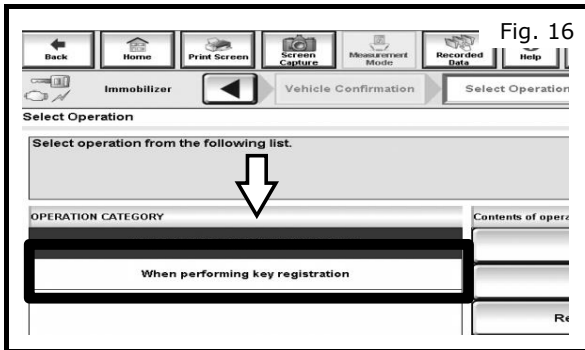

Fig. 16
- a) Once the system call is complete, you will enter the Select Operation screen will as shown in Fig. 16.
- b) Under OPERATION CATEGORY menu click "When performing key registration" as shown in Fig. 16.